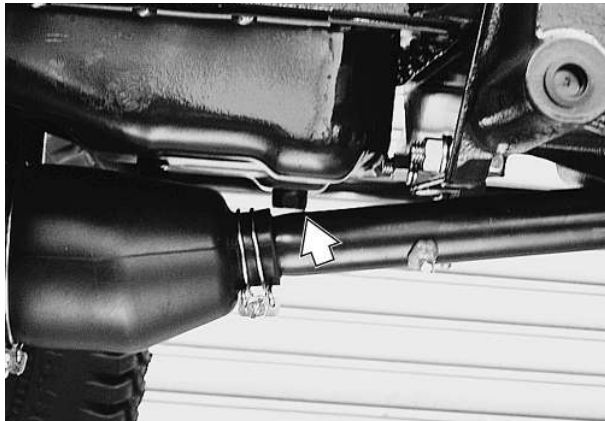

Figure 51 - Engine Oil Drain Plug
1. With the engine off, but at normal operating temperature, drain and discard the engine oil by removing the drain plug, Figure 51. Reinstall the plug after the oil has drained and discard the oil.